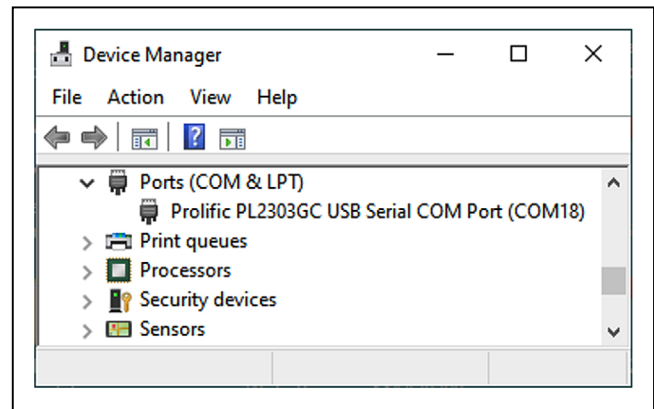

Figure 1. MAX66301 EV Kit Virtual COM Port
- 4) The MAX66301 EV kit uses both the Prolific PL-2303 and a MAXQ610 microcontroller to provide SPI or UART connectivity to the MAX66301 device. Verify the correct installation of the virtual COM port by selecting **Control Panel**→**System**→**Hardware**→**Device Manager** and expanding the **Ports (COM & LPT)**. If the driver is installed properly, the Port lists as in Figure 1. Note that your COM port number can be different.